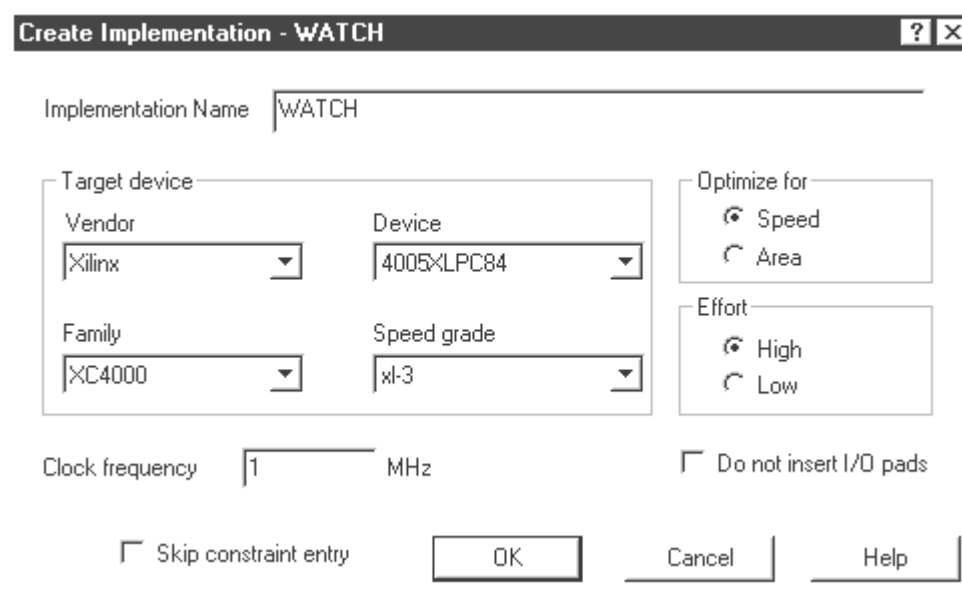

Figure 2. Assigning a device and a default clock frequency.
- 12) After the top level HDL file is selected, the **Create Implementation-WATCH** window will open. Select the **4005XLPC84** device with a **-3** speed grade, a **1 Mhz** default clock frequency, and leave the remaining options on their default settings (see **Figure 2**). Click on **OK**.